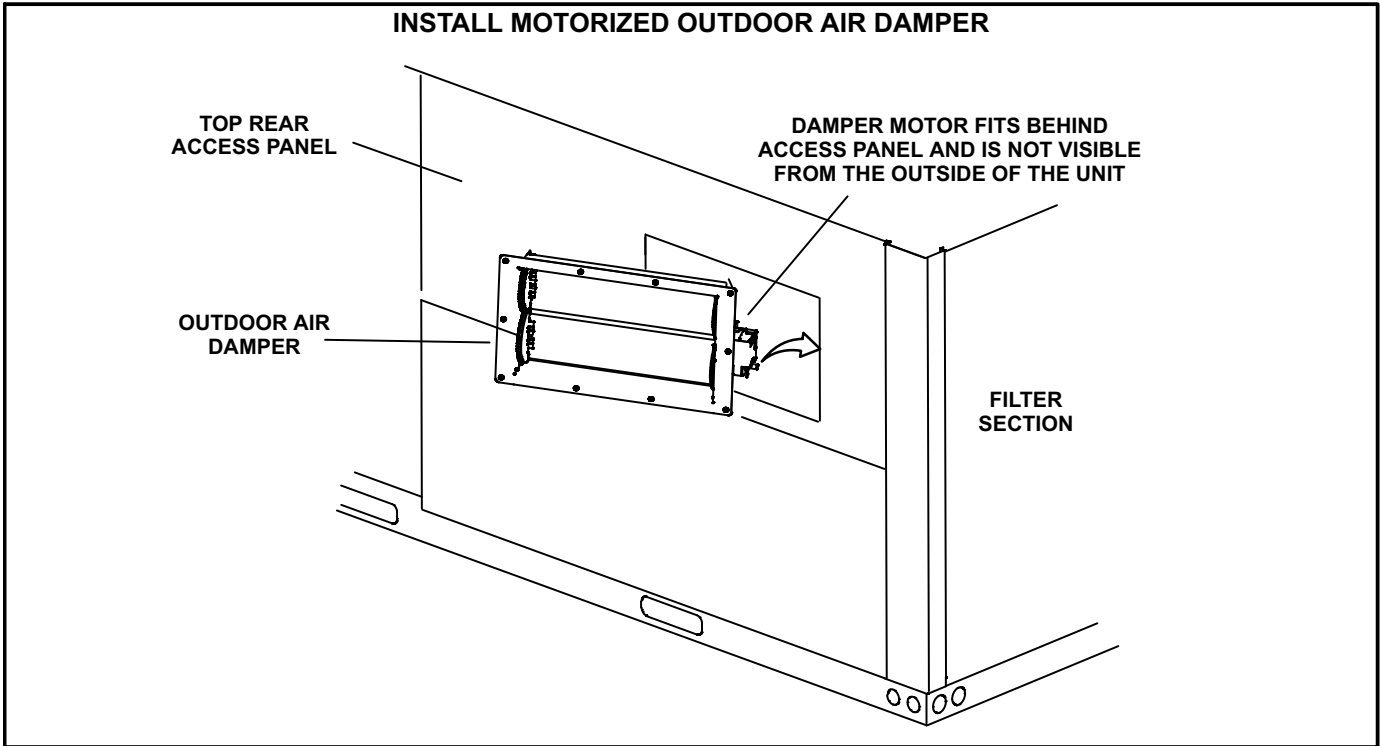

FIGURE 3
- 5- Install damper assembly into top rear access opening. See figure 3. Turn assembly so that the damper motor is entering opening first. Secure with the retained sheet metal screws.